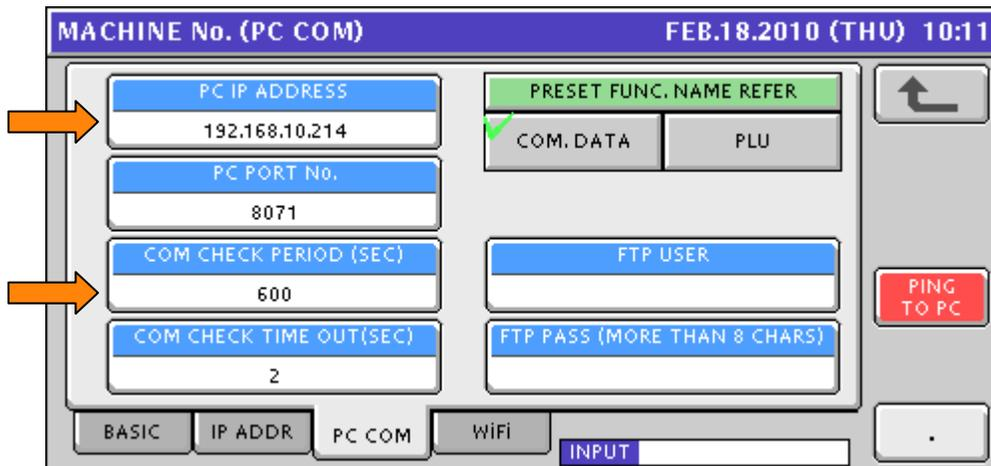

Figure 4.2. Enter the Computer's IP Address and the Comms Check Period
10. Enter a computer IP Address to be used for comms testing from the scale (ping). Press the **PC IP ADDRESS** field. See Figure 4.2.